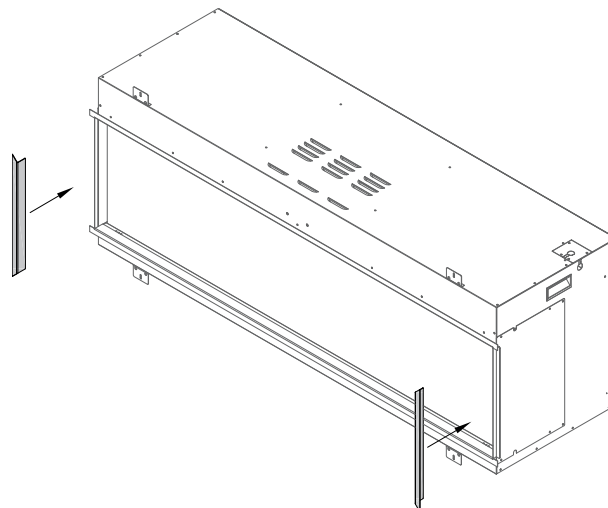

Figure 2.16 - Side Trim
2. Install the sides trim pieces as shown in Figure 2.16.